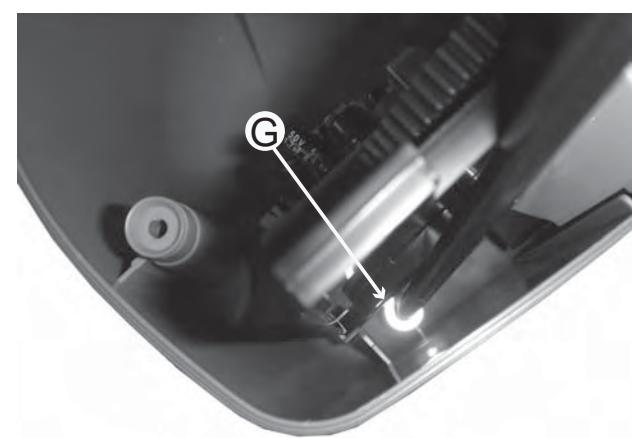

Figure 10
- 2) Loosen 1 screw " G " inside the back panel as shown in figure 10.